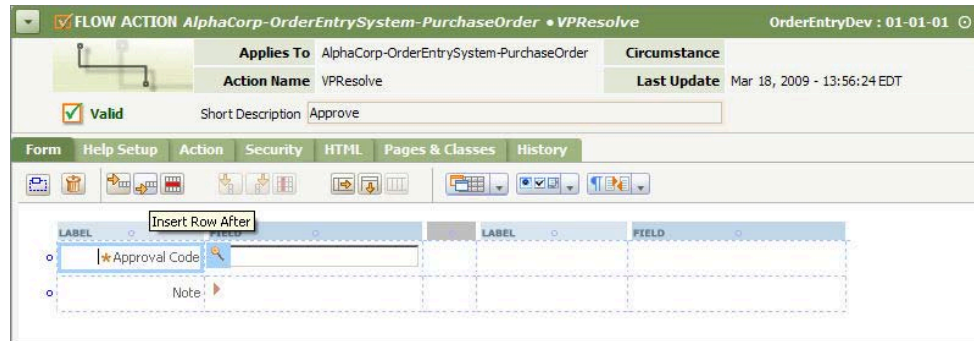

Figure 4-18. Flow Action – Inserting a Row
3. Select the Approval Code cell and then click the Insert Row After button  to insert a new row below the Approval Code row (Figure 4-18).